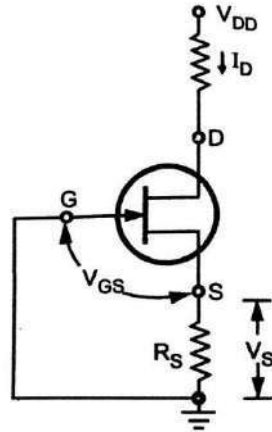

Fig 2: Simplified self-bias circuit for dc analysis
- For D.C. analysis we can replace coupling capacitors by open circuits and we can also replace the resistor R_G by a short circuit equivalent, since $I_G = 0$. This is illustrated in Fig.2.